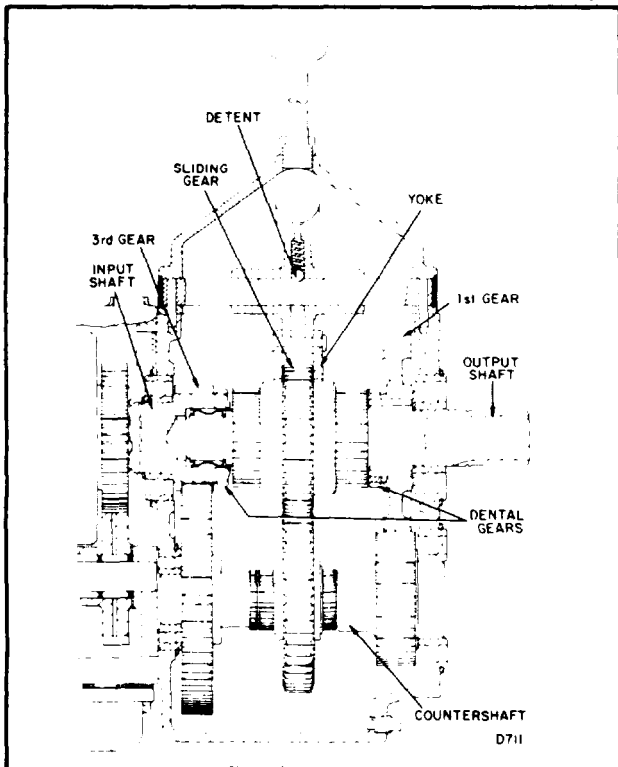

FIGURE 7-55.
**7-63. 3-SPEED RANGE TRANSMISSION (see figure 7-55).**